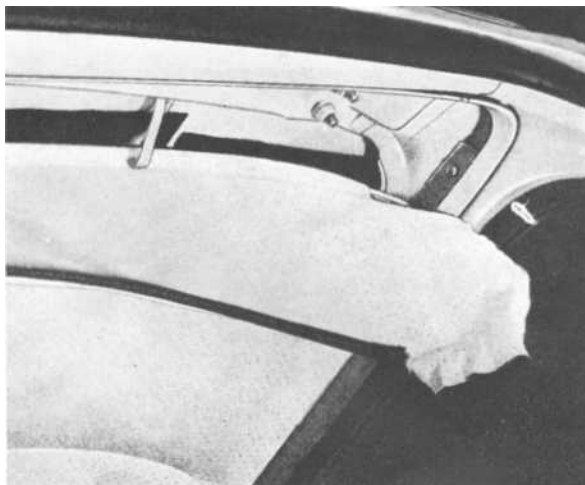

Fig. 42. Headlining fabric removed to expose
3. Carefully pull down the headlining at the rear edge beginning in the middle and continuing outwards towards the corners. The teazel strip at the corners is bent out slightly with a putty knife. The fabric is then carefully lifted off the projection of the teazel strip with the help of the putty knife. Remove the headlining fabric up to the rear stretcher as shown in Fig. 42.